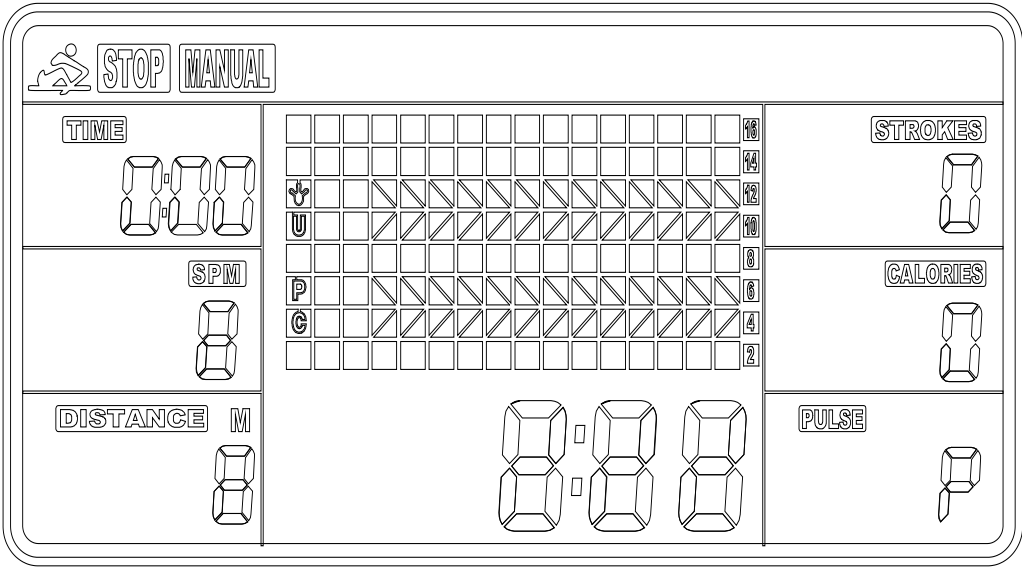

Fig.4
- (1) **MANUAL (Fig. 4):** There are 2 options in MANUAL mode.